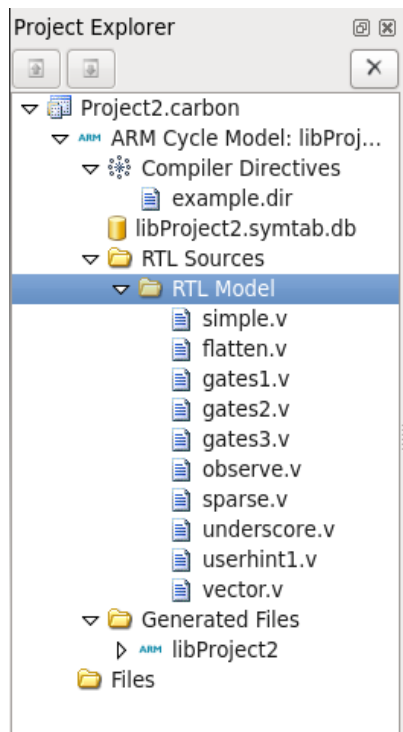

Figure 3-11 RTL Source Files in Project Explorer
3. Click **Open** to add the RTL files to your project. The result is shown in Figure 3-11.